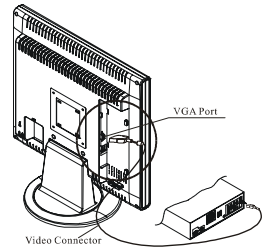

Figure 1-5
2. Connect one end of the signal cable to the LCD Monitor's VGA port (See Fig 1-5)